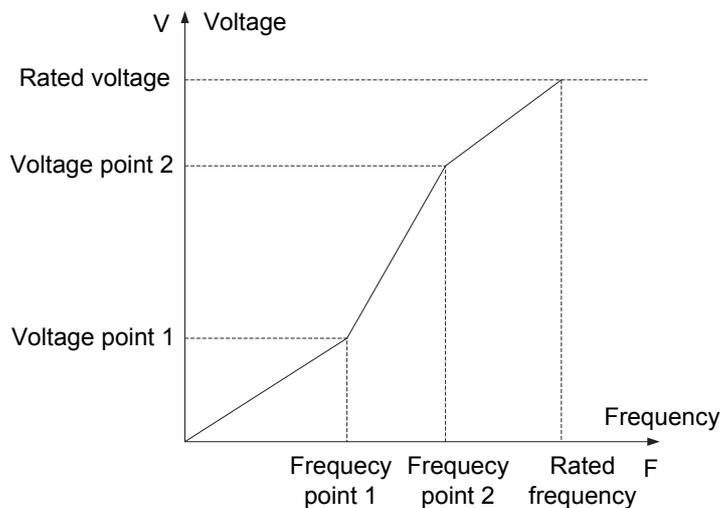

Fig. 4-3 Multipoint V/F control
- When the control mode is selected to be multipoint V/F, the function numbers above are used to set the voltage and frequency corresponding to the V/F curve inflexions. For the setting method, see Fig. 4-3 as a reference.